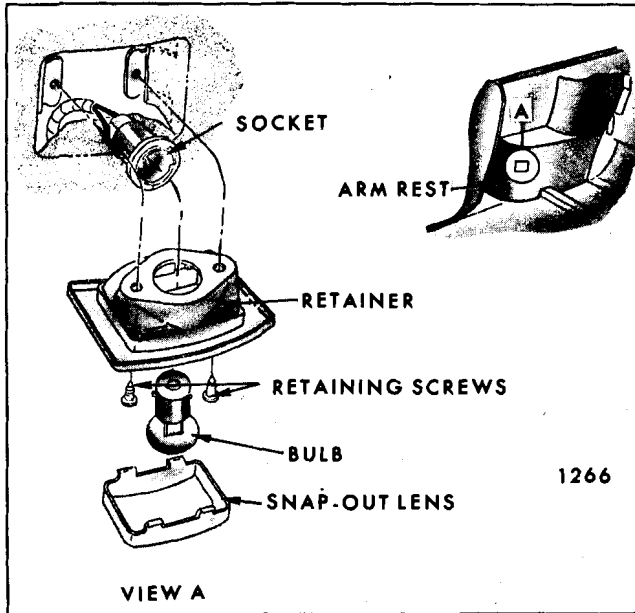

Fig. 13-21-Quarter Arm Rest Courtesy Lamp
4. Where present, detach electrical wiring and remove arm rest (View "A" Fig. 13-21).